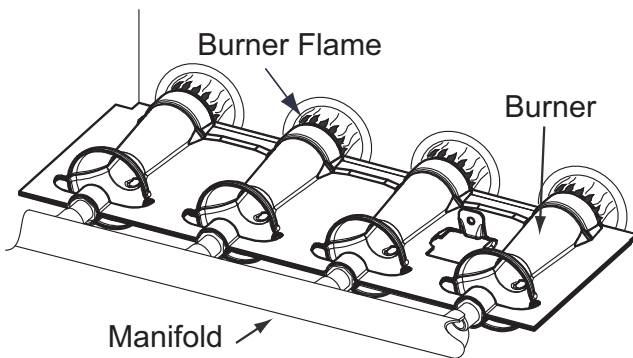

Fig. 63 - Burner Flame
8. Reverse items 6 through 1 for reassembly.
11. Check furnace operation through 2 complete heat operating cycles. Look at burners. Burner flames should be clear blue, almost transparent. See Fig. 63.